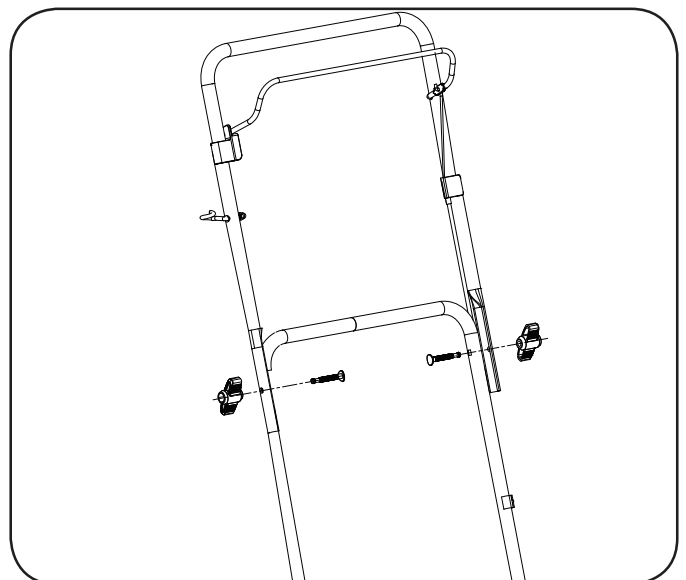

Figure 4
3. Tighten star knobs for connecting the upper handle with lower handle (Figure 4).